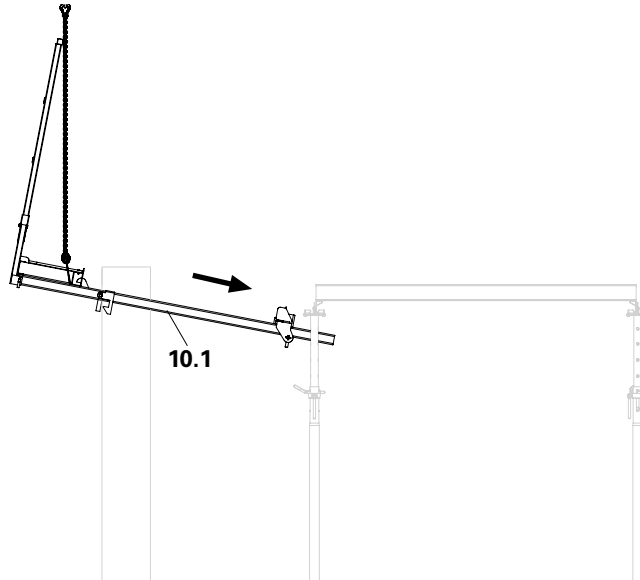

Fig. A9.21
1. Push the longitudinal beam (10.1) beneath the existing elements. (Fig. A9.21)